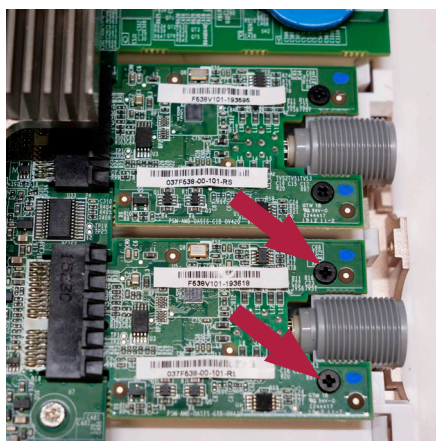

Figure 16 Remove the screws on the VDI board to be replaced
- a) Use the screwdriver to loosen the two black screws holding the VDI board (see Figure 16)
- e) **Insert and tighten the two black screws (max. torque 0.2Nm) holding the VDI board in place (see Figure 16)**